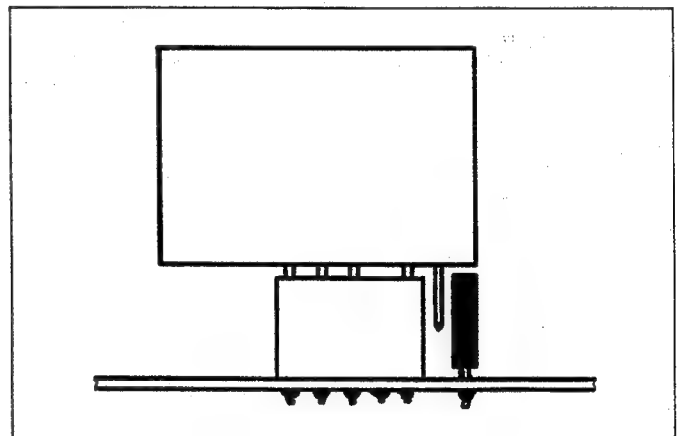

Fig. 3.5
- The small 6-pin PCB (1.179.183.21) of the cable harness is plugged into the 5-pin CIS socket (item B on ARM ELECTRONICS PCB) in such a way that one of the connecting pins between the CIS socket and the capacitor remains vacant (see Fig. 3.5). The connector that previously occupied this location is connected to the socket on the smaller PCB 1.179.183.21. (Check that the coding is correct, one terminal of the socket must remain vacant.)